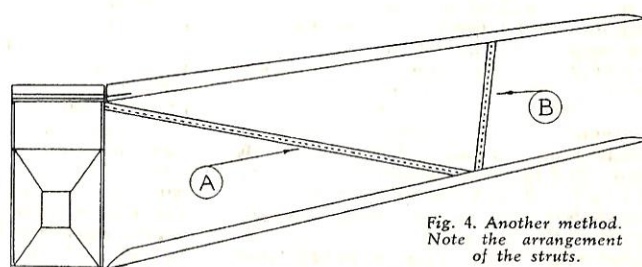

Fig. 4. Another method. Note the arrangement of the struts.
upward and downward direction, and this may be obtained by the use of struts, as shown in Fig. 4. These may take the form of thin bamboo struts, or the paper tubes and rubber bands may again be used. In the case of the strut marked (A), which serves to maintain the dihedral, the rubber band is secured between a small hook affixed to the edge of the top centre section, and a similar hook bound to the main spar of the lower wing. The short strut (B) supports the top wing.